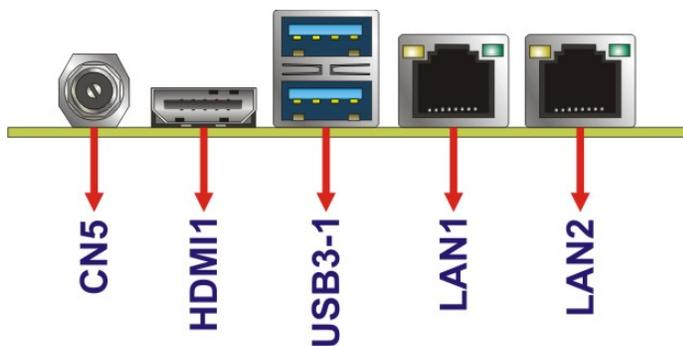

Figure 3-18: External Peripheral Interface Connector
Figure 3-18 shows the HYPER-AL external peripheral interface connector (EPIC) panel. The EPIC panel consists of the following:
- CN Location:** See **Figure 3-18**
CN Location: See **Figure 3-18**
CN Location:	See Figure 3-18